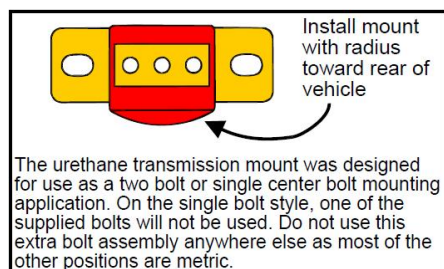

Figure 3
6. Install bagged transmission mount with the mount radius towards the rear of vehicle using supplied hardware. You must use included preload plate. (It is not a spacer) **(Figure 3)**